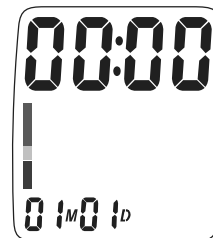

Fig. 1
1.When the device is connected to power on at first time, the display will show as Fig. 1;